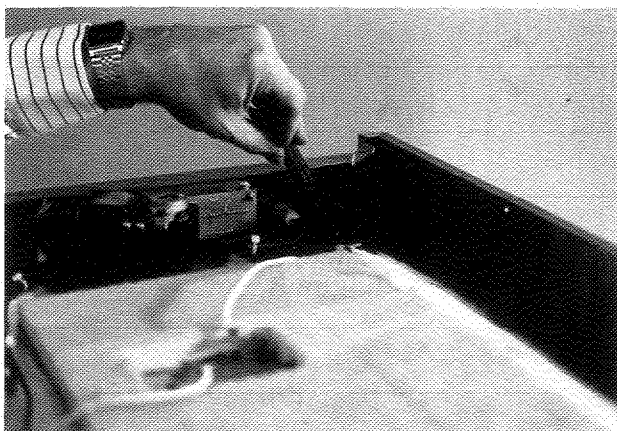

Figure 5
4. Loosen the nut holding the power switch on the back side of the control panel and then remove the nut on the front of the control panel. (See Figure 5)